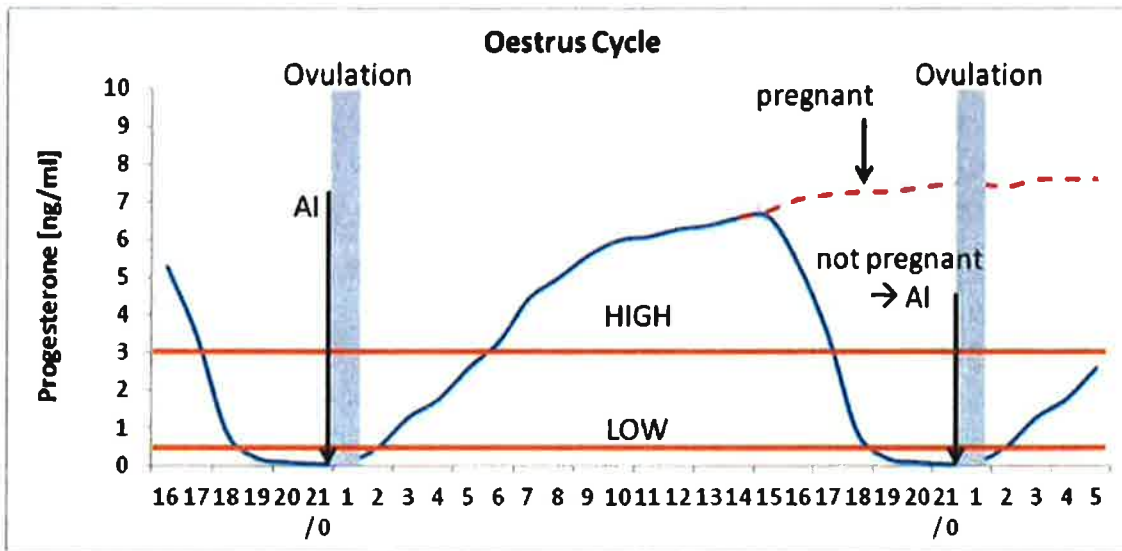

Figure 1: Progesterone levels during the oestrus cycle of a cow. AI should be performed when progesterone levels are low.
The determination of the progesterone level in dairy cattle is a valuable tool for efficient herd management. During the bovine heat cycle the level of progesterone (P4) changes significantly (Figure 1). On day 0 of the oestrus very low progesterone levels can be detected due to an inactive corpus luteum. The corpus luteum develops from an ovarian follicle during the luteal phase leading to production of progesterone and therefore increasing progesterone levels. These high levels even increase further in case of pregnancy after day 20 or drop again indicating the beginning of a new cycle. Consequently the determination of the progesterone level in milk can help in maintaining an accurate time management of artificial insemination (AI) of cows.